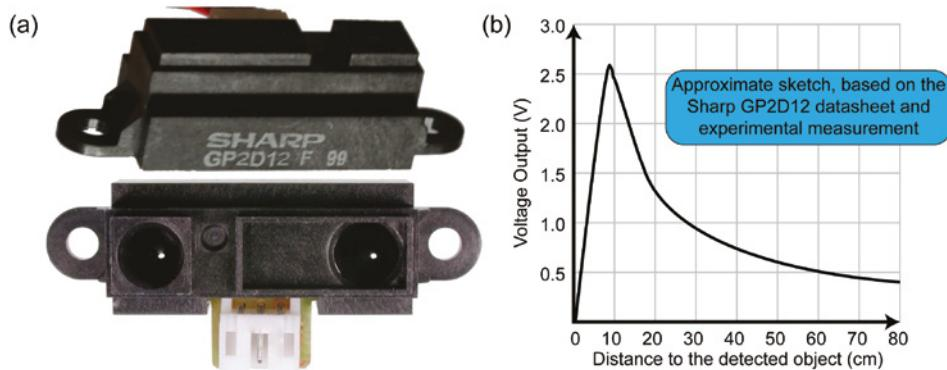

Figure 9-16: (a) Sharp infrared distance measurement sensor; (b) its analog output response
can also be attached to servo motors and used to calculate range maps (e.g., on the front of a mobile robot). They work well in indoor environments but have limited use in direct sunlight. They have a response time of ~39ms, so at 25–26 readings per second they will not provide dense range images. Figure 9-16(a) shows two aspect views of a low-cost sensor, the Sharp GP2D12.
1. The sensor response in Figure 9-16(b) is highly nonlinear so that two different distances can give the same sensor output. Thus, you need to find a way to disambiguate the sensor output. For example, if the sensor output is 1.5V, it could mean that the detected object is either 5cm or 17cm from the sensor. A common solution to this problem is to mount the sensor so that it is physically impossible for an object to be closer than 10cm from the sensor. This problem is not examined in further detail, and it is assumed here that the detected object cannot be closer than 10cm from the sensor.